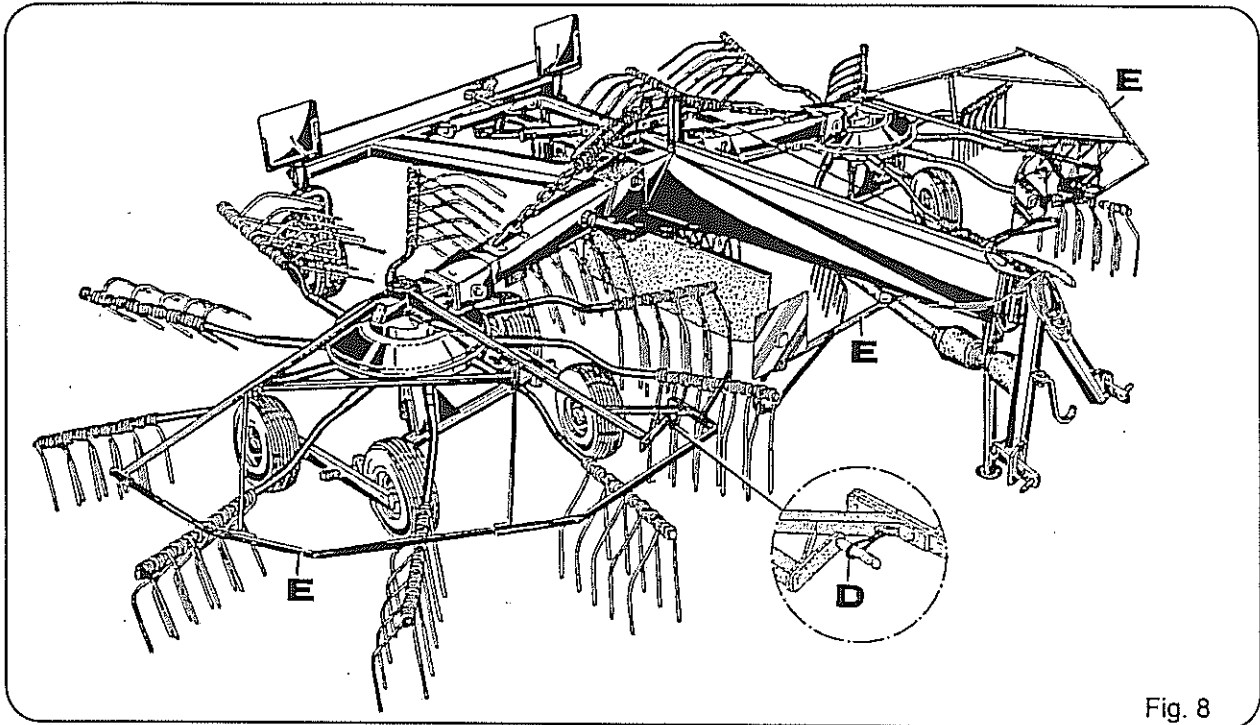

Fig. 8
1. Protector with crank handles for adjusting the height of the rotors and the central hoop guard must be fitted (see Fig. 8, Ref. E). Secure the crank levers on both left and right with a rubber ring (Fig. 8, Ref. D).